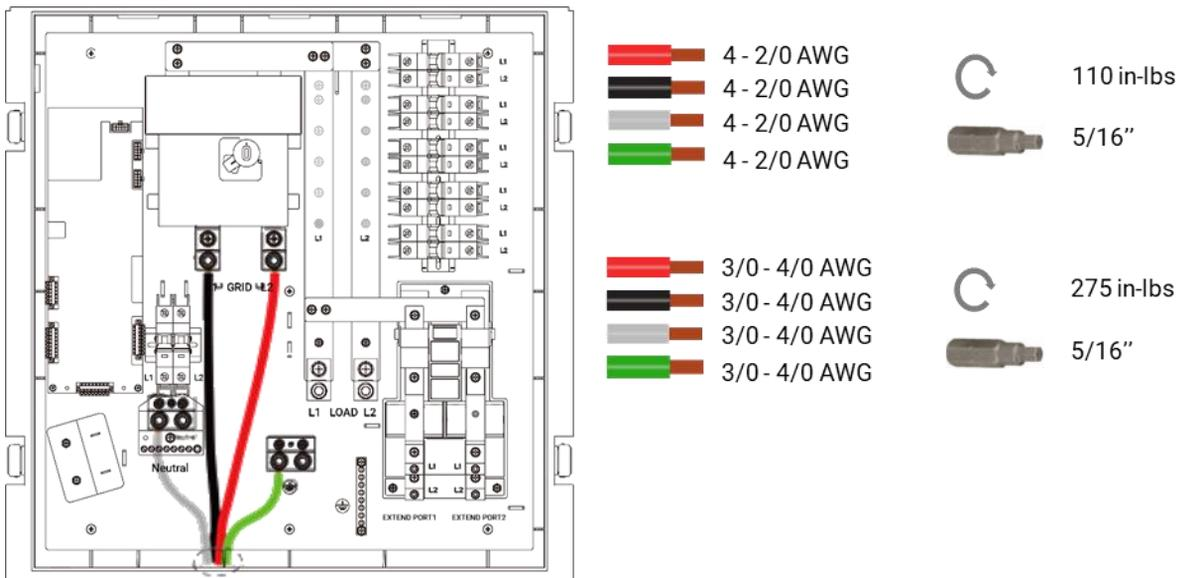

Figure 5. Smart Gateway Grid Wiring
b. Route the Grid wiring through the conduit and connect it to the Smart Gateway Grid terminal. (Ref.to Figure 5.)